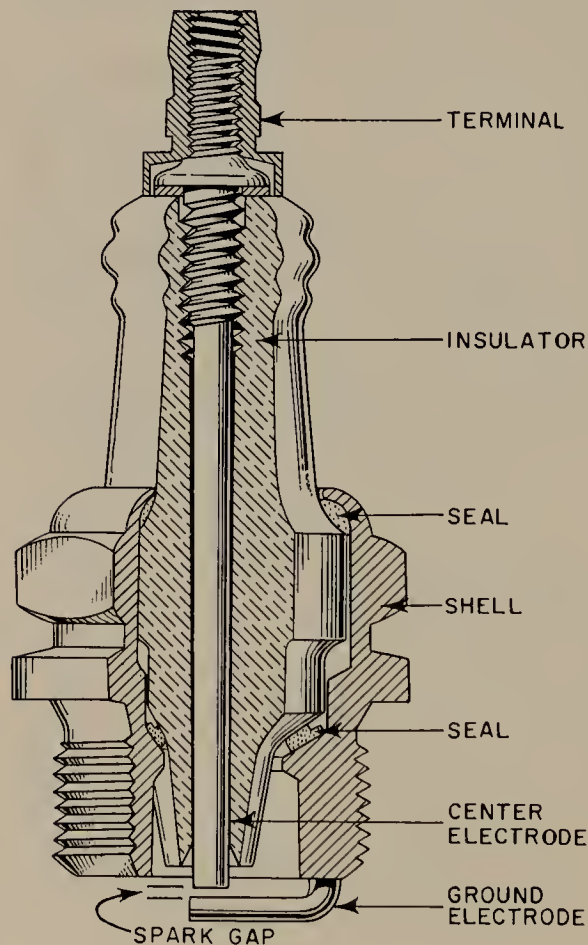

FIGURE 7.10 Spark plug partly cut away to show construction.
The spark plug, shown in Fig. 7.10, is connected to the two ends of the secondary winding. One end is connected through the metal of the engine (called ground), and the other through a rubber-covered wire (called the high-tension lead). The voltage in the secondary winding quickly goes up high enough to cause a powerful spark to occur at the gap between the two spark plug electrodes. One of these electrodes is connected to the metal shell of the plug which is screwed into the cylinder head of the engine. The other is insulated by a porcelain shell in which it is centered. The porcelain is breakable, just like glass, and this is the reason that the center electrode must never
7.14 Spark Plug. The spark plug (Fig. 7.10) consists of a metal shell, and a porcelain insulator with an electrode extending through its center. Thus, the electrode is insulated from the shell. The shell has a short electrode attached to one side and bent in so there is a small gap between it and the center electrode. This is the gap which the high-voltage surge jumps to produce the ignition spark. The shell has threads so that it can be screwed into a tapped hole in the cylinder head.